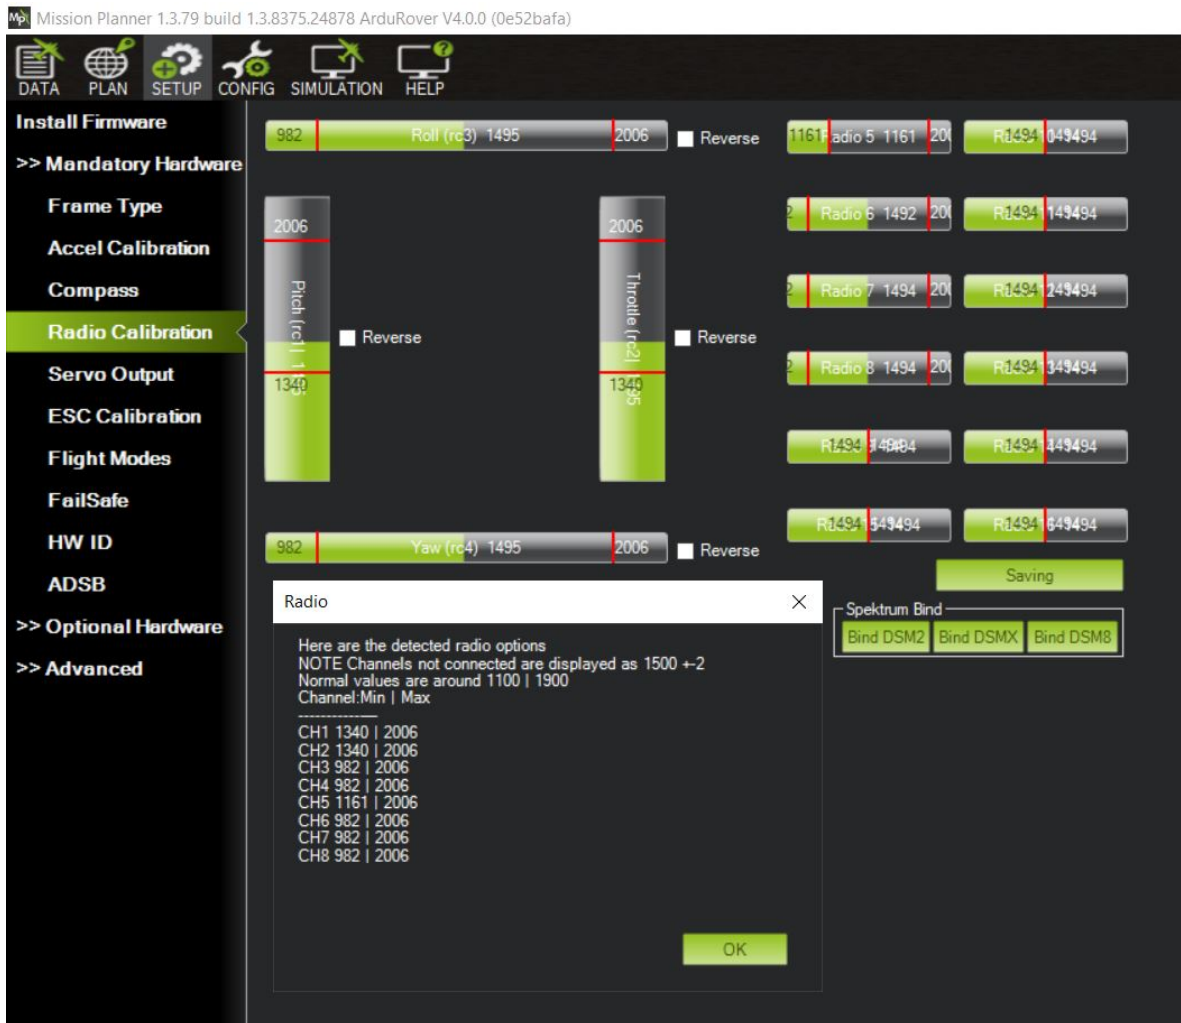

Figure 83: Radio Calibration Verification
13. A page will popup indicating the new min and max values. Press OK. (Refer to Figure 83)